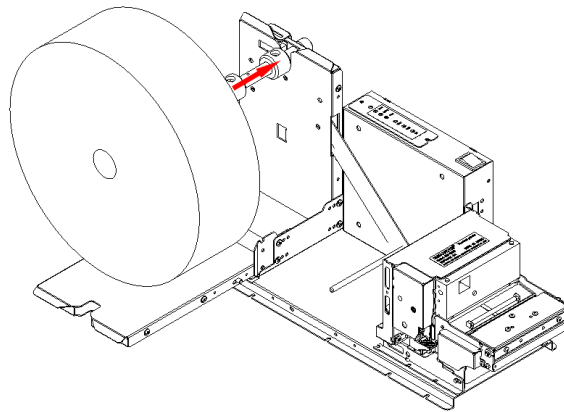

Fig. 4.6-2 Load paper roll
- Shown as in Fig. 4.6-2, load the paper roll onto the core shaft and push it to the inner side of this core shaft, then remove the paper roll holder side board to its previous position;